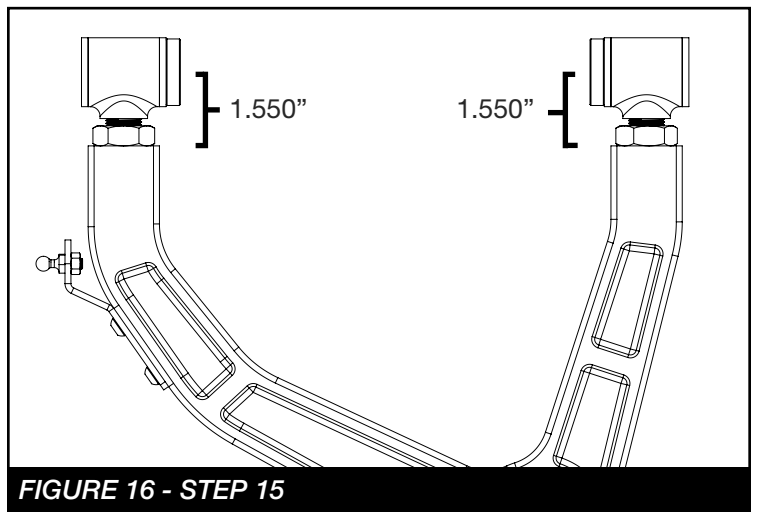

FIGURE 16 - STEP 15
15. Install the FT95242 (rod end) into FT20861 & FT20862 (Upper control arm). Measure 1.5" from the center of the rod end to the control arm, then tighten the jam nut. Install FT20882 (sleeve) into the bushing so the spacer end is towards the inside. **SEE FIGURE 16**